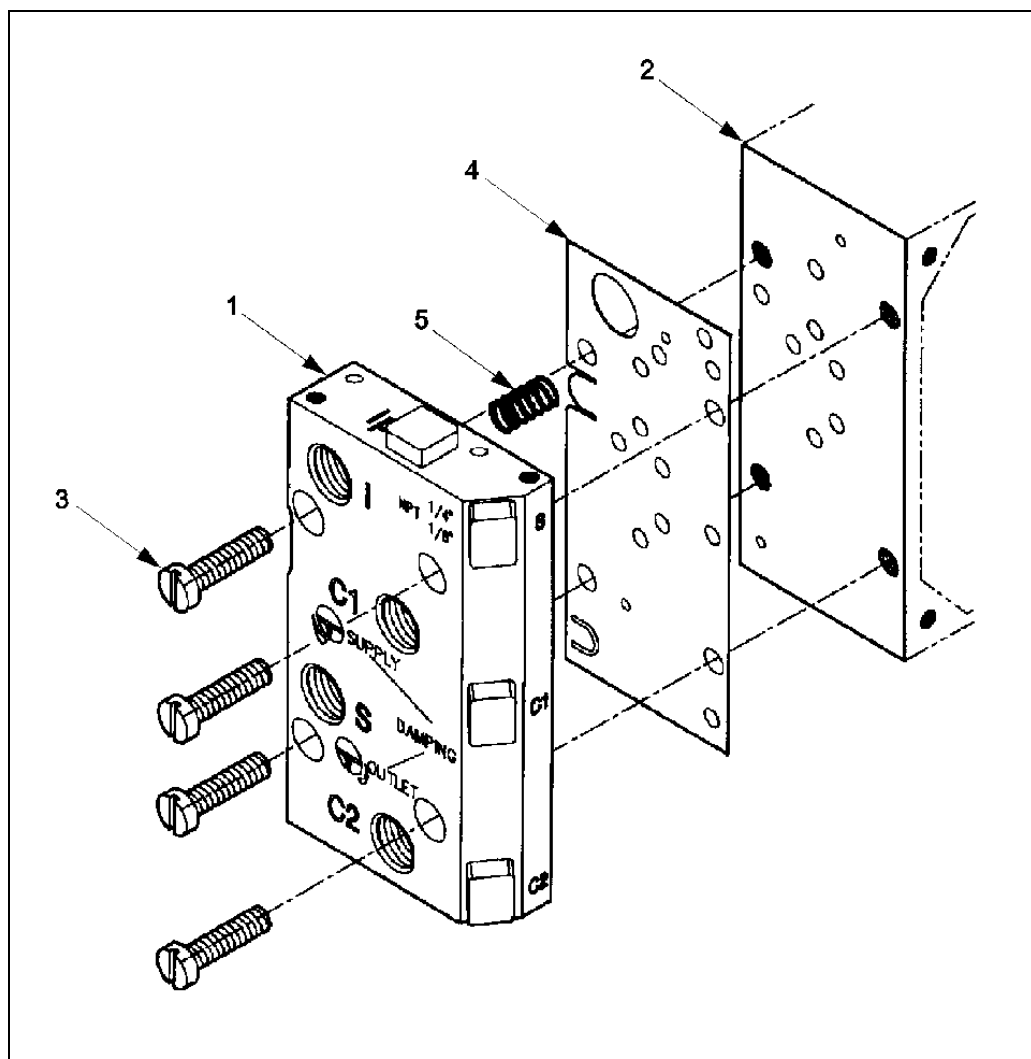

Figure 9 – Installing I/P Electric Control Unit P41C
1. Turn off the supply air and remove the connecting block (1), gauge or plug from port IP, and the existing gasket (4) between the positioner (2) and connecting block. See Figure 9.